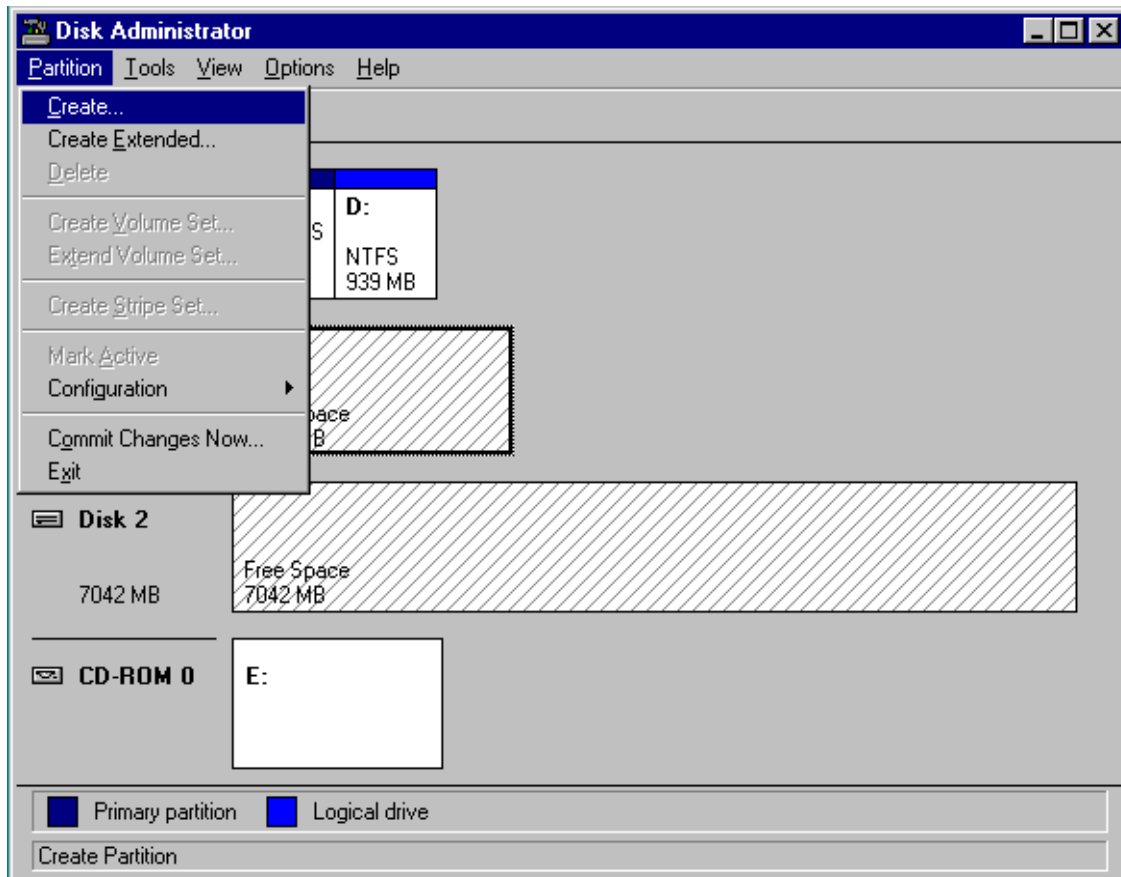

Figure 3.3 Opening the Create Primary Partition Panel
To create and format partitions on the new SCSI disk devices (see Figure 3.3 through Figure 3.9):
1. On the Disk Administrator main panel, select the free space area for the SCSI disk you want to partition, select the **Partition** menu, and then select **Create...** to open the Create Primary Partition panel (see Figure 3.3).
2. On the Create Primary Partition panel, enter the desired partition size (see Figure 3.3), and select **OK**. If the specified partition size is greater than 1024 MB, the Disk Administrator will request confirmation to create the partition.
3. The Disk Administrator panel now shows the new unformatted partition for the selected device. Make sure that the correct partition size is displayed. If the partition size is not correct, repeat steps (1) through (4) to re-enter the correct partition size.